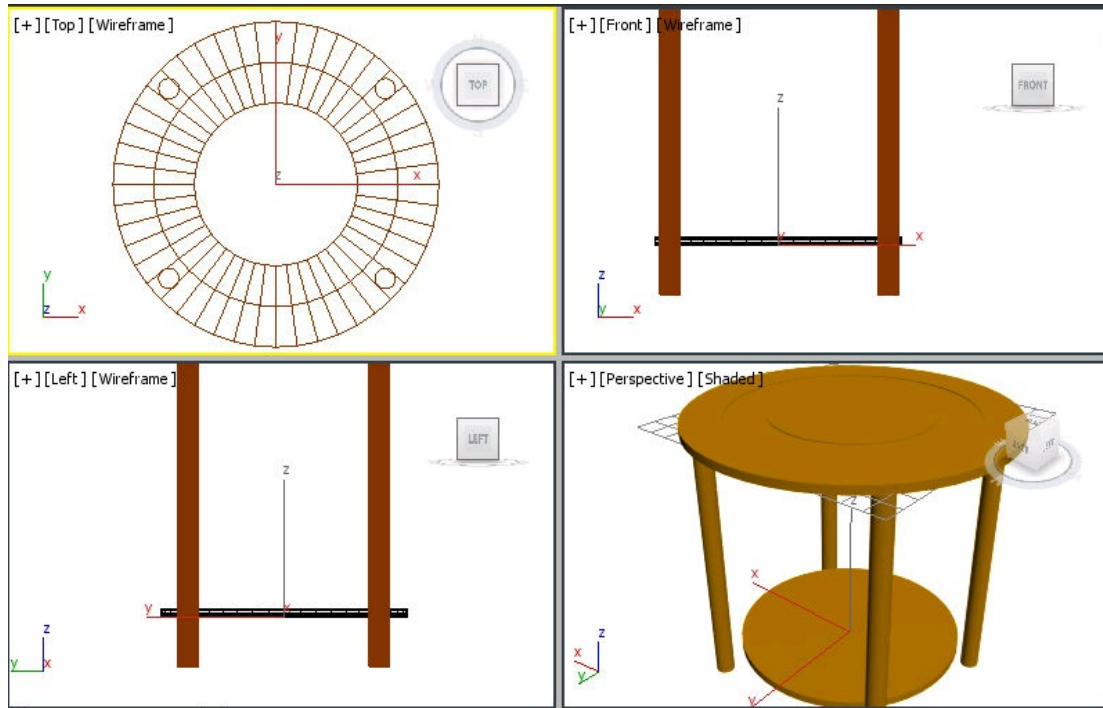

Figure 2-55 The base01 created
2. Rename it as *base01* and assign light brown color to it, refer to Figure 2-55.